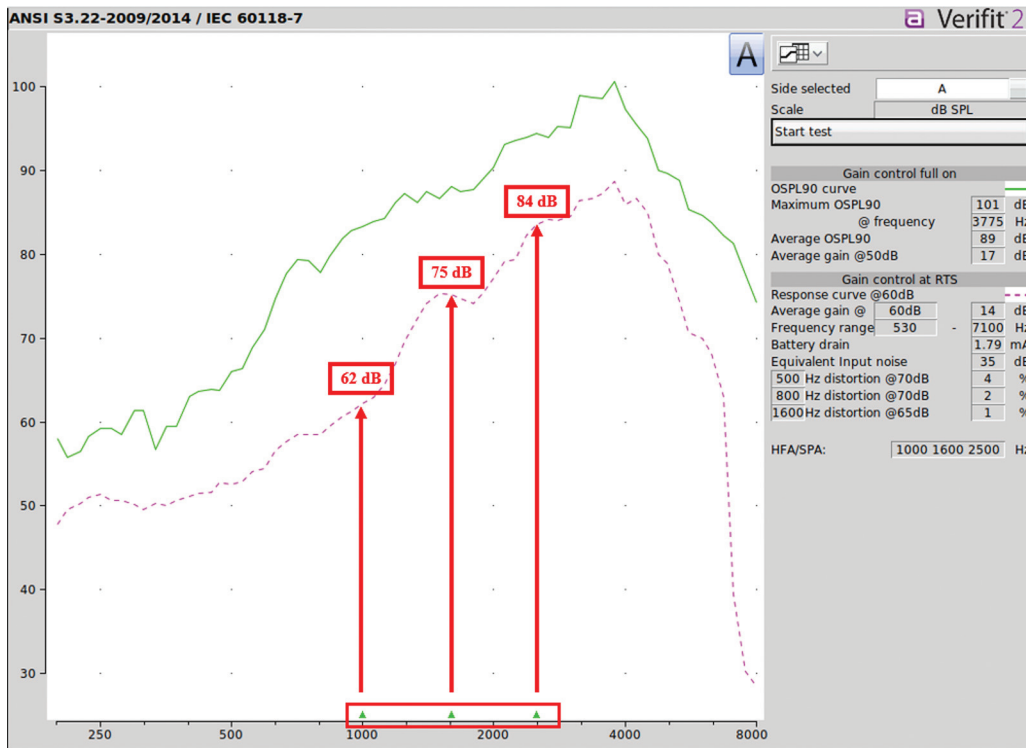

Figure 3 Calculating the HFA for the frequency response curve.
1. Determine the average of the output levels at the HFA frequencies on the response curve (not OSPL90 curve). Remember, the HFA is calculated using the output from the curve at 1,000, 1,600, and 2,500 Hz. These frequencies are represented on the ANSI curve by the three green triangles on the bottom of the graph (see Figure 3).
2. Using the values in Figure 3, we can calculate the HFA: